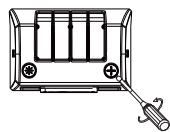
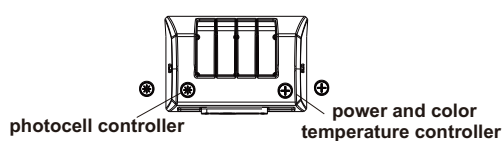

figure 11
figure 12
Step 2: (Figure 11), then slide the switch up and down to adjust the power controller, CCT controller or photocell controller in your demand. (figure 12)